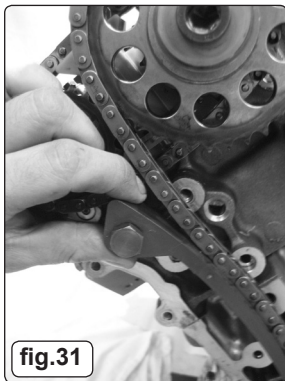
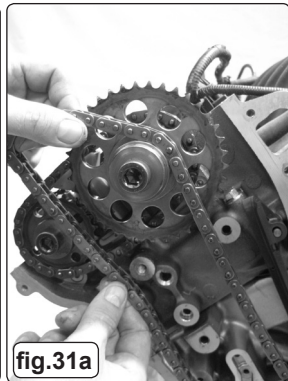

fig.31
fig.31a
- 4.7.7 Remove the chain guide rails (fig.31) and the primary chain (fig.31a).